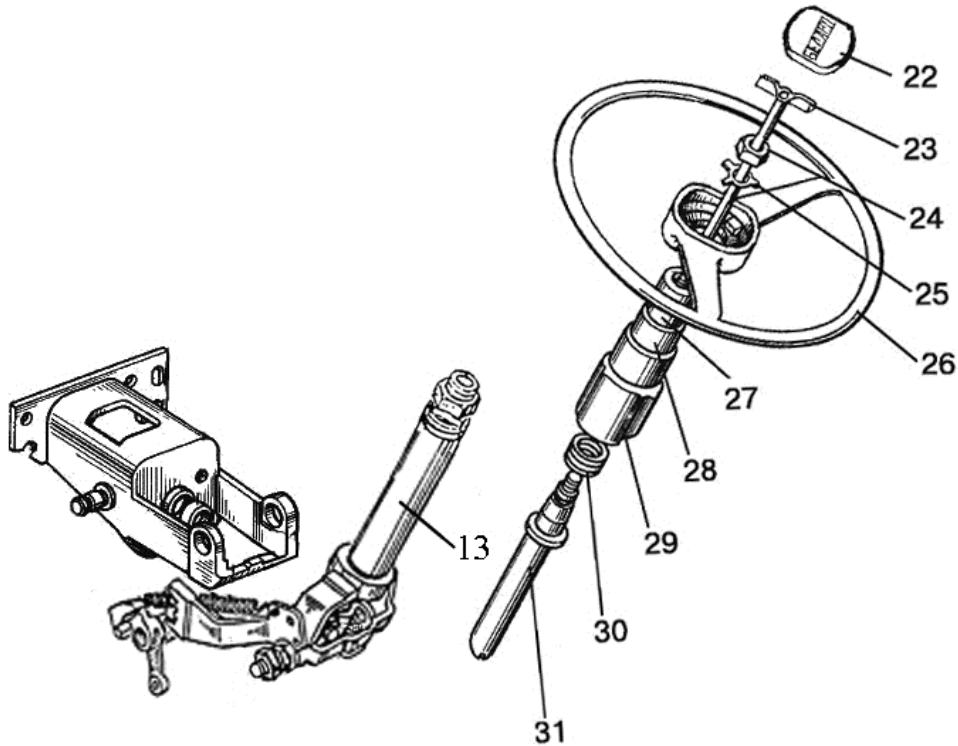

Figure 7.21
- 24) assembly steering wheel (26), (figure 7.21) with shaft (31), having installed spring (30), sheath (29), bushings (27), (28), retaining washer (25), nut (24) and clamp (23)
- 25) insert steering wheel (26), (figure 7.21), as an assembly with shaft (31), sheath (29), bushings (27) and (28) inside pipe (13) of steering column;
- 26) secure sheath (29), (figure 7.21) with screws (4) (figure 7.10) in section 10.4 “Dismounting-mounting dashboard 80-3805010-Д1 of tractors Belarus-1025/1025.2/1025.3” to arm of dashboard;
- 27) screw up clamp (23), (figure 7.21), and close with cover (22);